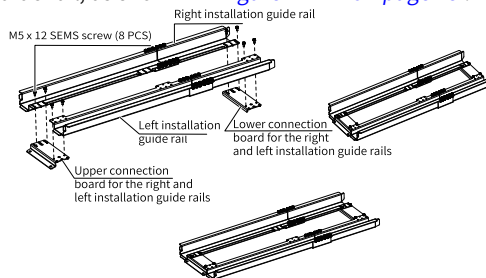

Figure 1-11 Assembling guide rails
a. Assemble the guide rail, as shown in "Figure 1-11 " on page 25 .